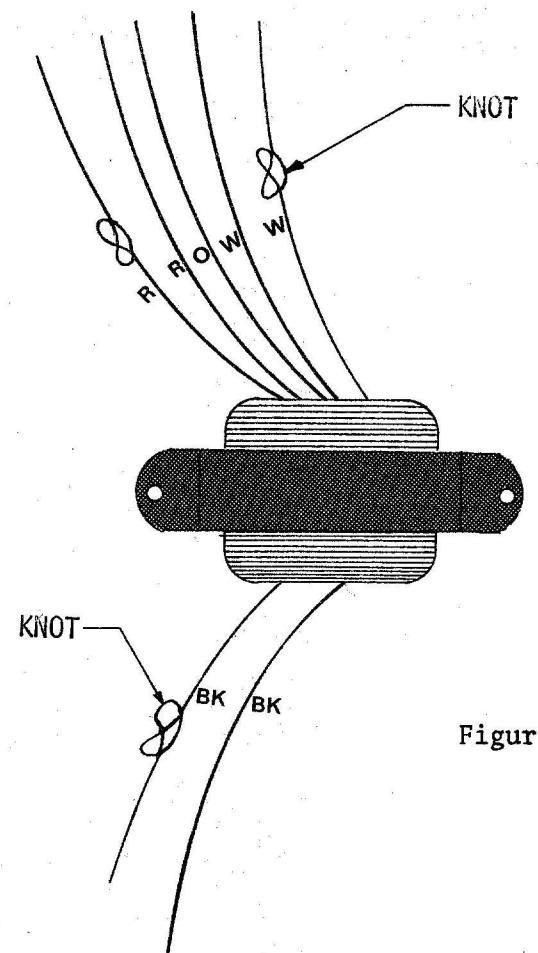

Figure 1
4. Tie a knot in the middle of the black wire that enters the coil winding the closest to the left side. (See Figure 1.)